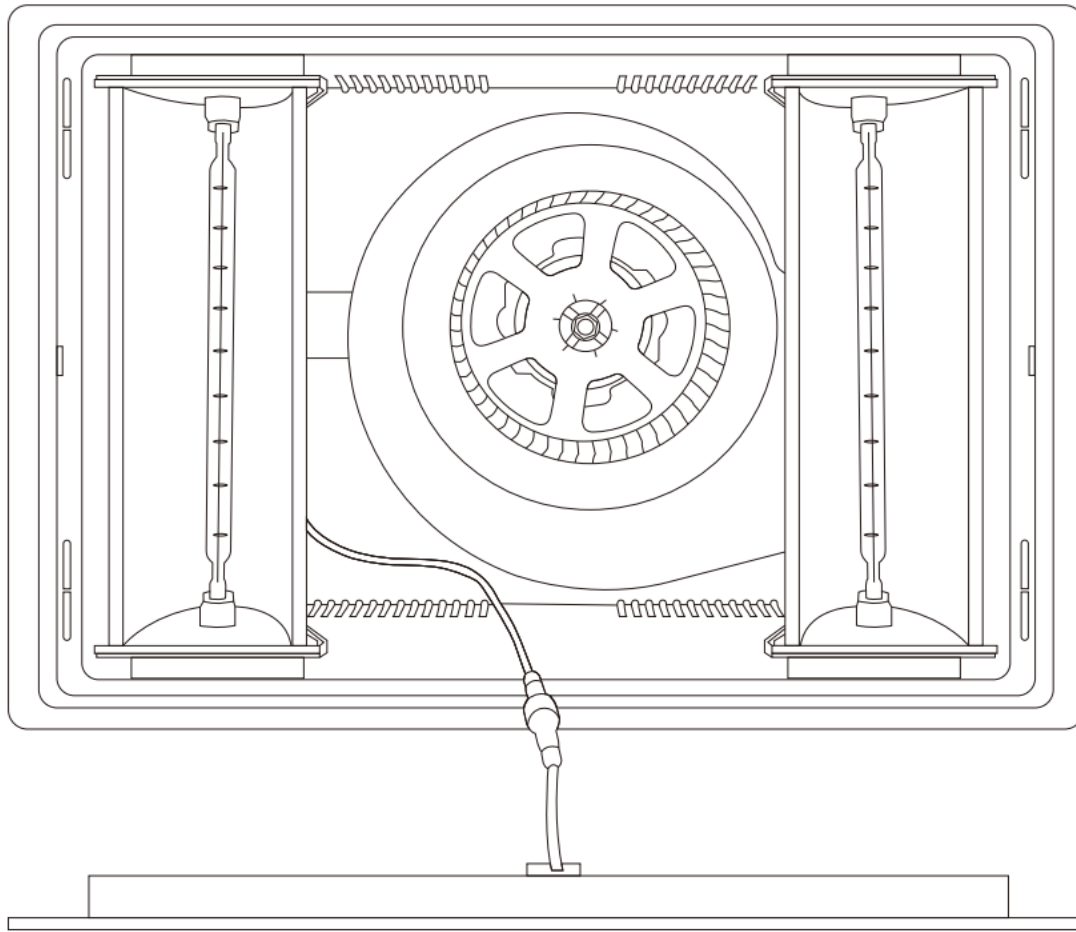

Fig. 9
12. Remove the fascia from the THERMALITE PRO body by unclipping the springs. Disconnect the LED light power connector from the THERMALITE PRO body by twisting and pulling apart the connectors. (Fig. 9)